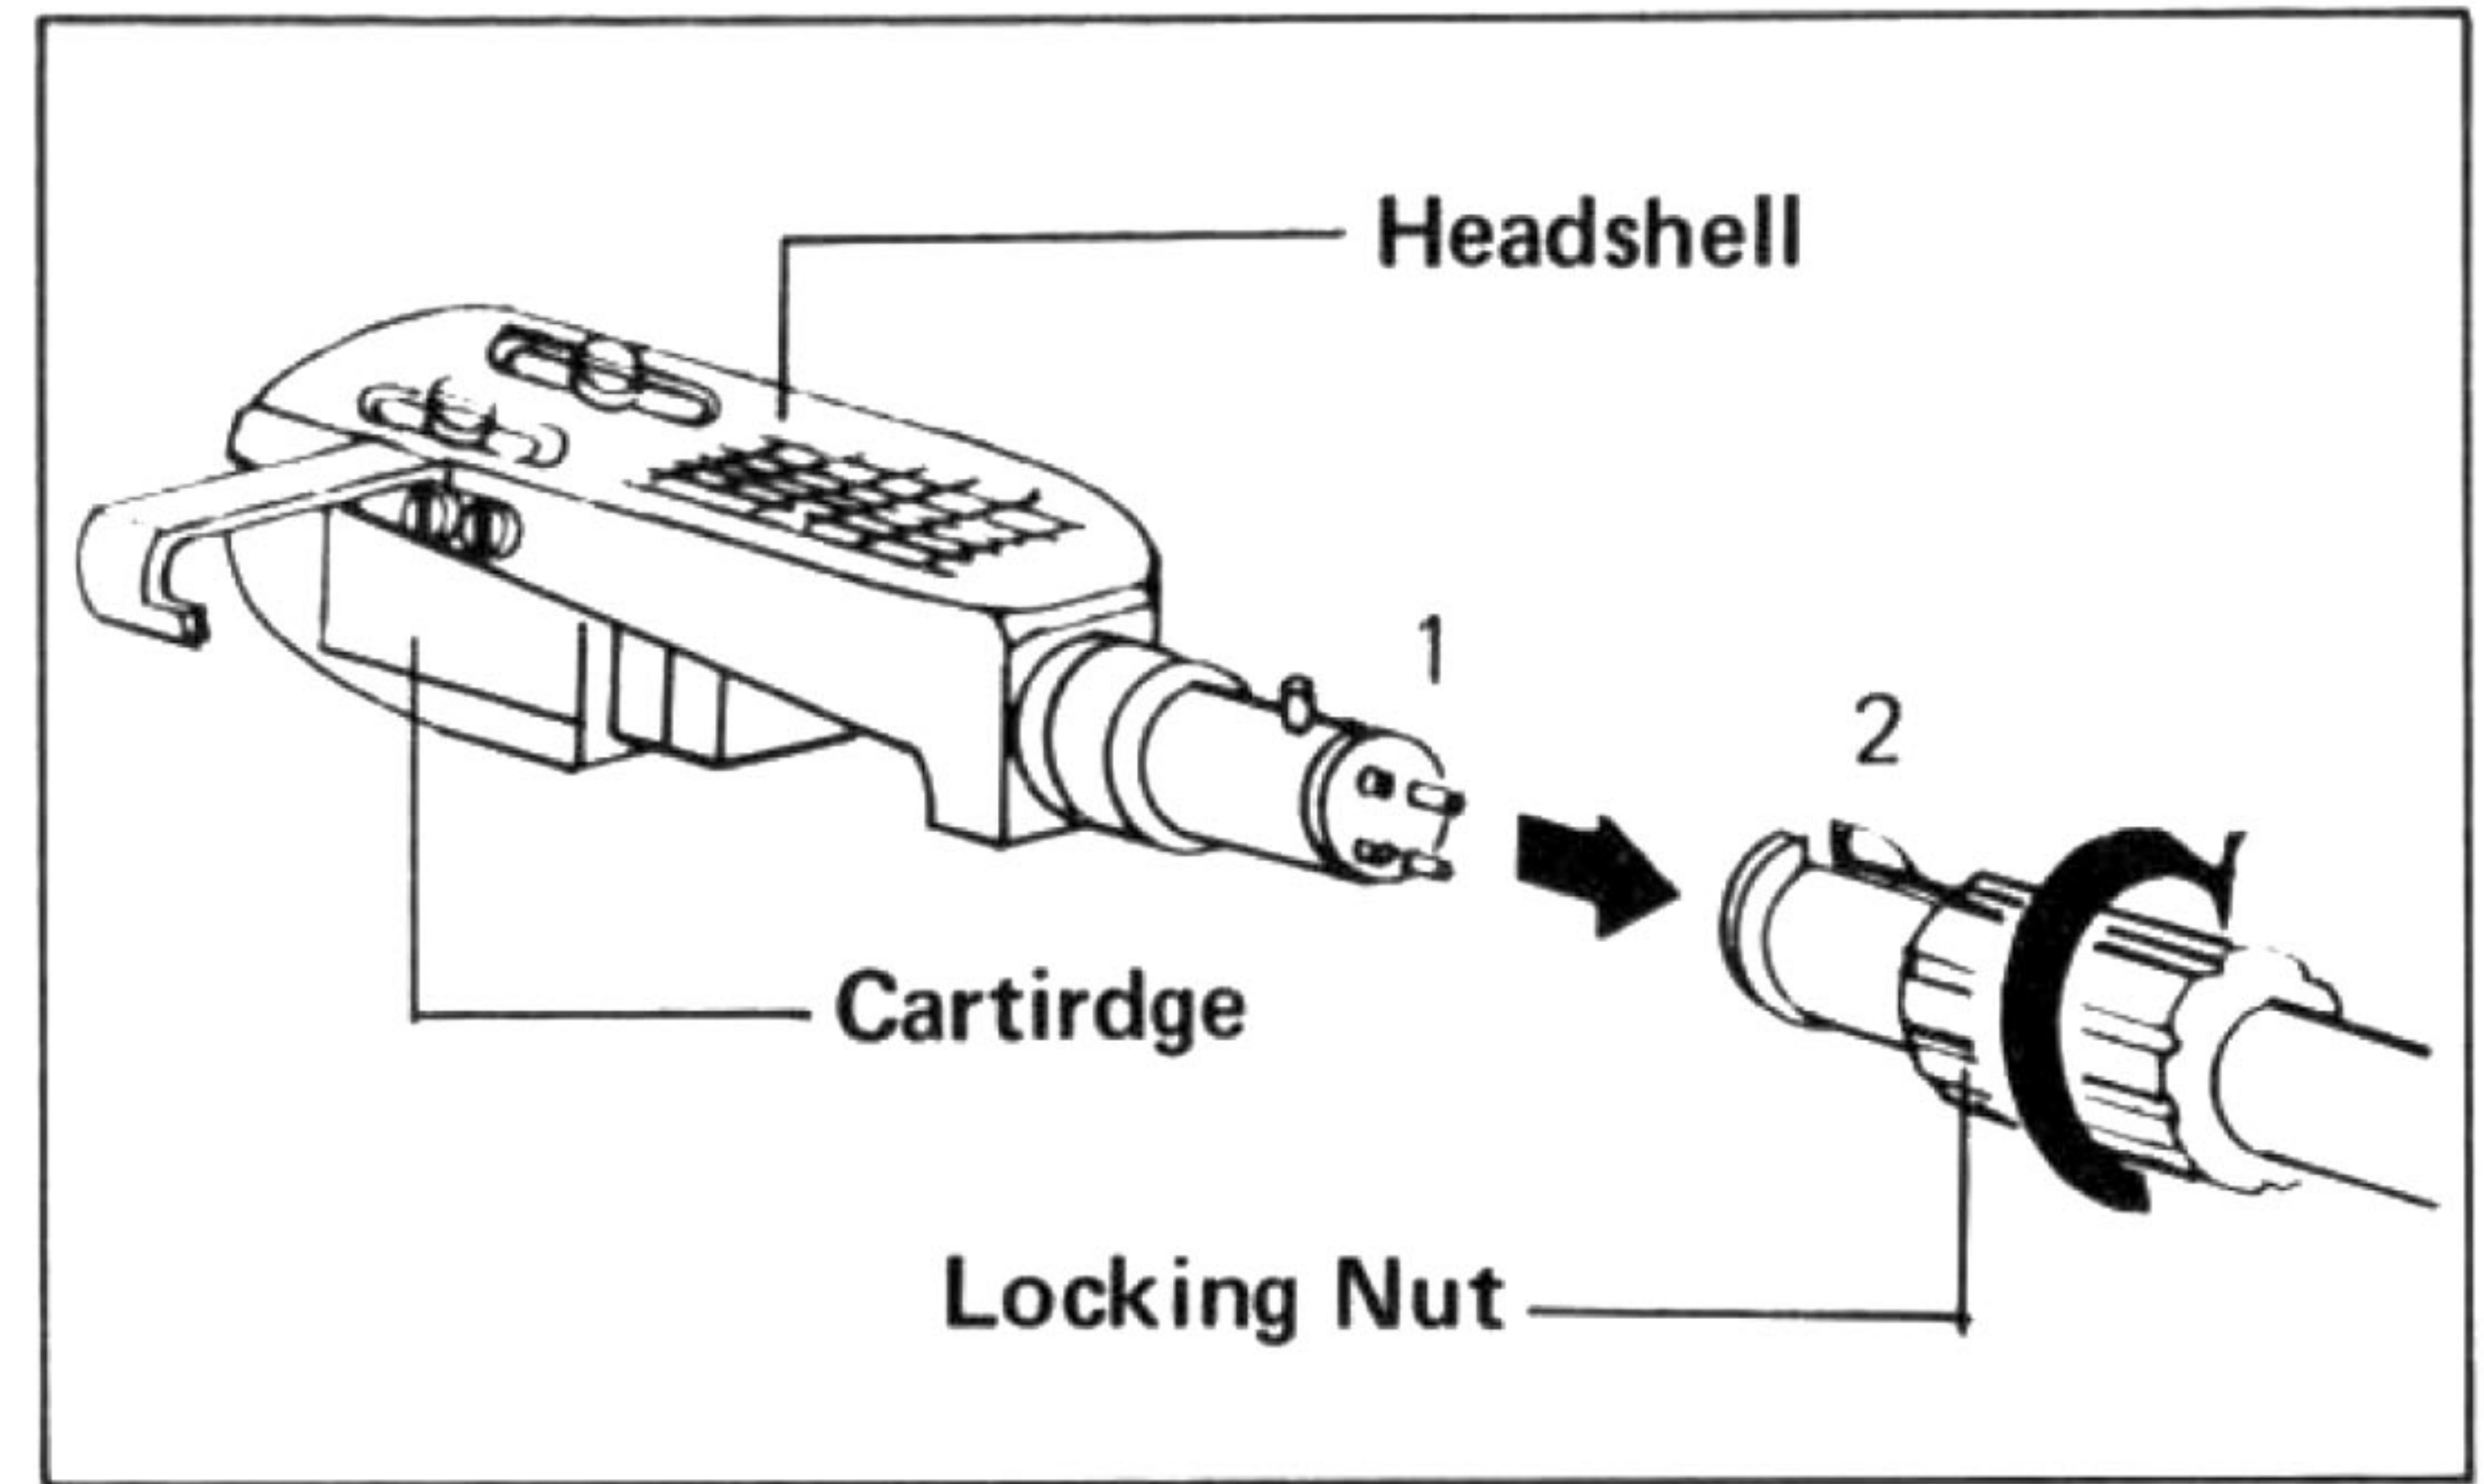

Fig. 3
3. Insert the headshell into the locking nut to the direction of Arrow 1, rotate the locking nut to the direction of Arrow 2 and tighten it firmly. (Fig. 3)